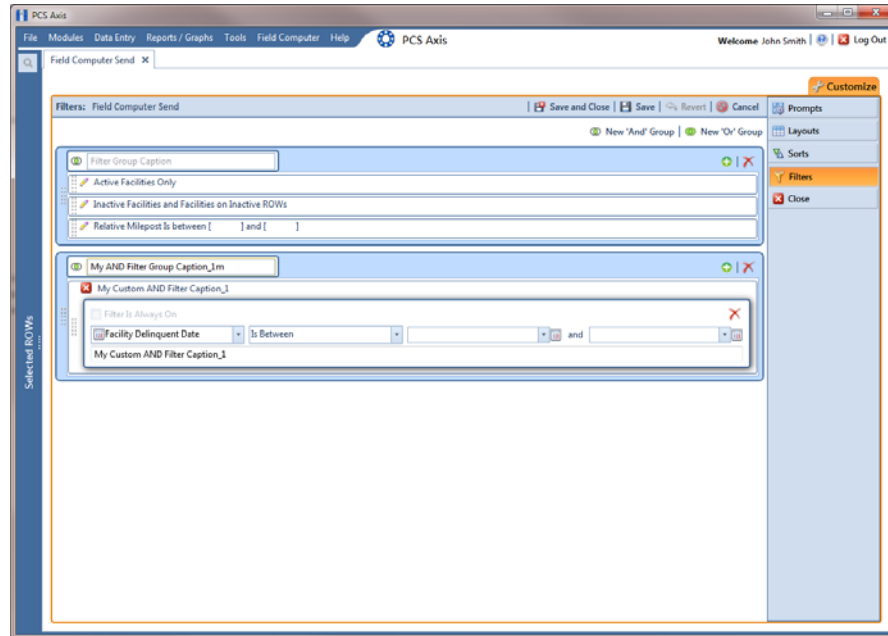

Figure 13-38. New 'And' Filter Group
- 4 Click the **Customize** tab , then the **Filters** button  to open the *Filters* page (Figure 13-38, page 602).
- 5 Click  **New 'And' Group** to open the filter properties group box (Figure 13-38, page 602).
- 8 If the AND filter group includes a date filter, such as *Facility Delinquent Date Is Between* shown in Figure 13-38, set a date range using a calendar or dynamic dates in the following manner: